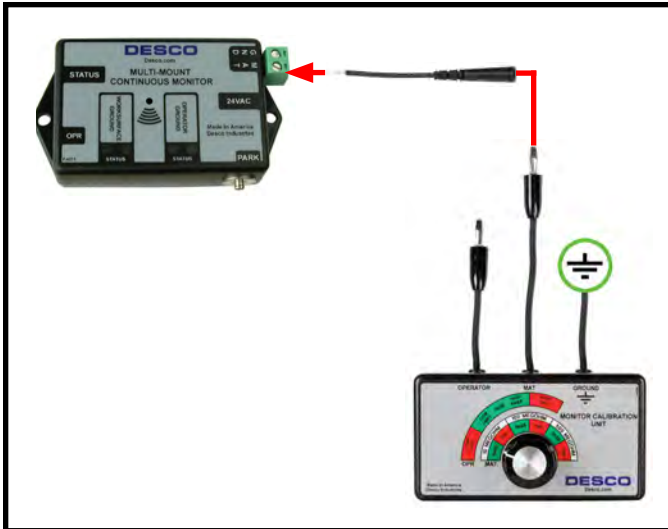

Figure 9. Connecting the MAT test lead from the Monitor Calibration Unit to the Multi-Mount Continuous Monitor
**Step 2:** Connect the included banana jack to wire adapter to the Calibration Unit’s banana plug labeled “MAT.” Insert the other end of the wire to the monitor’s green terminal block labeled “MAT” (see Figure 9).